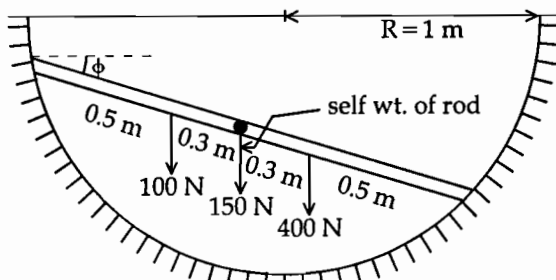

Figure 1. A
1. (A) A uniform rod AB (length 1.6m and wt. 150N) rests in equilibrium. On the inner surface of a smooth semicircular channel, 1m in radius, when carrying two point loads, 100N and 400N as in Figure 1.A. 16